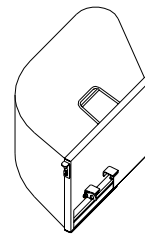

FIG2
- a) Grass catcher: 100L, see FIG2